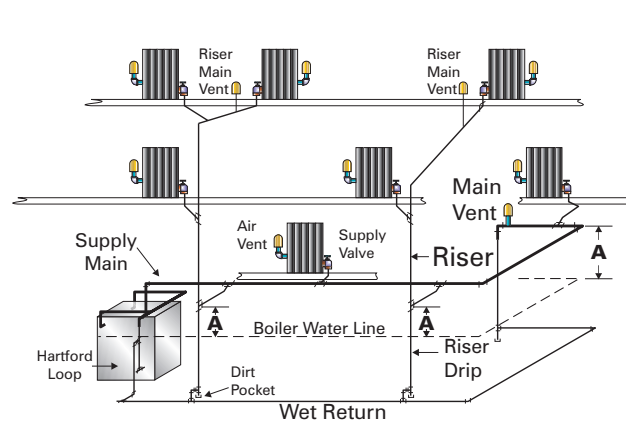

Figure 5: Parallel Flow Upfeed Gravity
- Parallel Flow Upfeed (Figure 5)